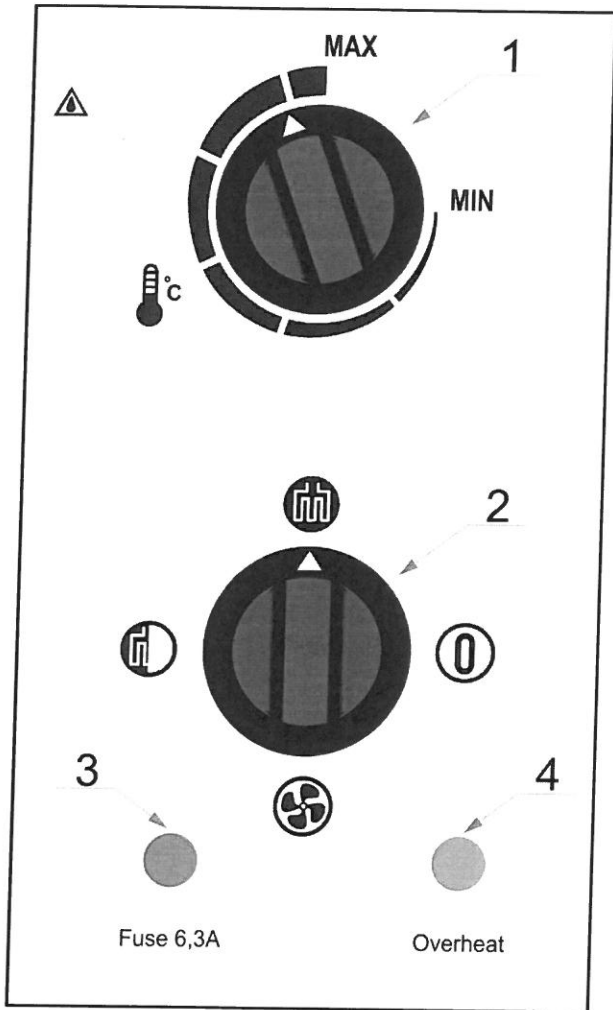
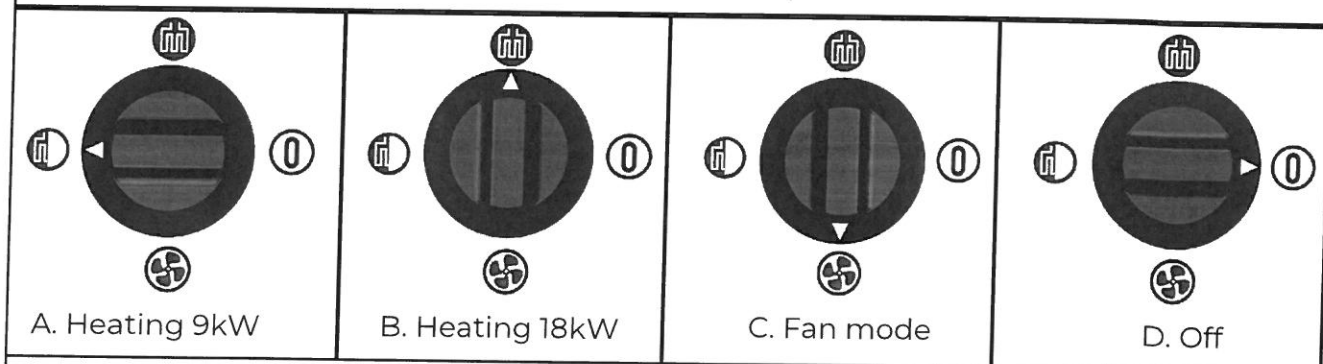

Fig.2 Control panel elements description.
Fig. 5 Function switch use-available options
Switch ON the unit and start heater by adjusting the function switch (No.2 Fig.2) to the position required: ① heating 9kW or ② heating 18kW or ③ fan mode (A, B or C Fig.5.) The space heater is equipped with an adjustable thermostat. The temperature required is set by means of the adjustment button (No.1 Fig.2). after which the heater runs automatically.
The machine must be cooled down before switching it off by turning function switch to the position shown in pos. C. Fig.5 (③ fan mode). With such a settings machine have to work for 10 minutes time before switching over to ④ OFF (pos. D Fig.5) or before interrupting the mains supply.
To get this turn the function switch to the position shown in pos. C. Fig.5 (③ fan mode).
To prevent problems caused by switching off without prior cooling down, post ventilating function has been implemented. Function is automatically used in case of improper switching off the device without prior cooling down or too short cooling time. After turning OFF the machine using the function switch to position ④ (pos.D Fig.5) ventilator will work. This could be executed with time delay (several seconds without any action) or without (will continue working). After machine cooling down ventilator will be switched off.
- Cool down the heater for 10 minutes and turn OFF the machine using the function switch (pos.D Fig.5) .
- Turn ON the machine turning the function switch to required position (pos. A, B or C Fig.5) .
- Check the fuse (pos.3 Fig.2). To replace fuse, use only 6.3A fuse.
- In case of overheating the overheat indicator (pos.4, fig 2) is on. The overheating protector should be reset manually by pushing the reset button (pos. 5,fig.1) when the machine has cooled down for c.a. 10 minutes. If this does not remedy the problem contact a seller for the support.